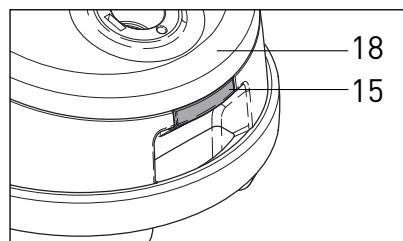
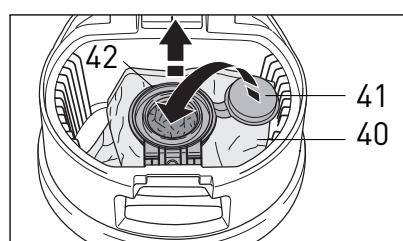

Figure 20
Figure 21
Changing the Filter Bag - Figures 20, 21, 22, 23 & 24
To change the filter bag (#40), switch off the power and unplug the vacuum. Lift the cover release catch (#15, figure 20) and raise the filter bag cover (18). Seal the filter bag with the sealing cap (41). Lift the filter bag out of the holder by tilting the green collar (42) up and pulling it out of the holder as shown in figure 21.